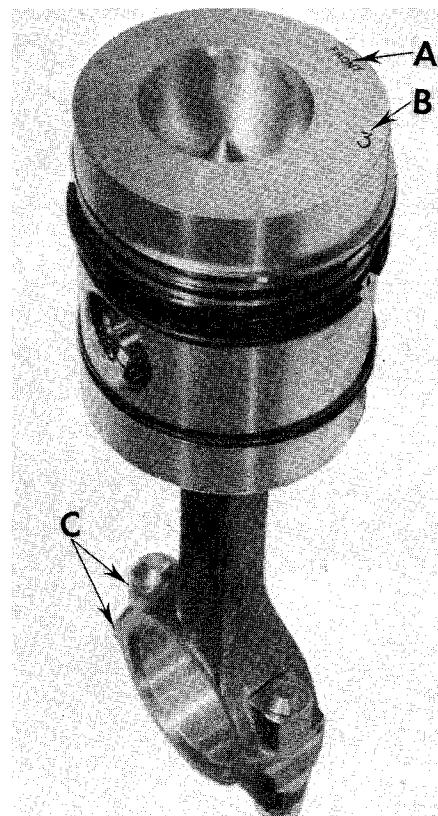

Fig. 71—Assemble rod and piston units as shown.
Cylinder numbers are stamped on the connecting rods and caps. When reinstalling rod and piston units, make certain the numbers are in register and face away from camshaft side of engine. Refer to Fig. 71.
73. The aluminum alloy, cam ground pistons are supplied in standard size only and are available in a kit consisting of piston, pin and rings for one cylinder. The toroidal combustion chamber is offset in piston crown and piston should be marked "FRONT" or "F" for proper assembly as shown in Fig. 71. If "FRONT" or "F" marking is not present on piston crown, assemble piston to connecting rod with the cavity offset towards side of rod that is stamped with cylinder identification number.